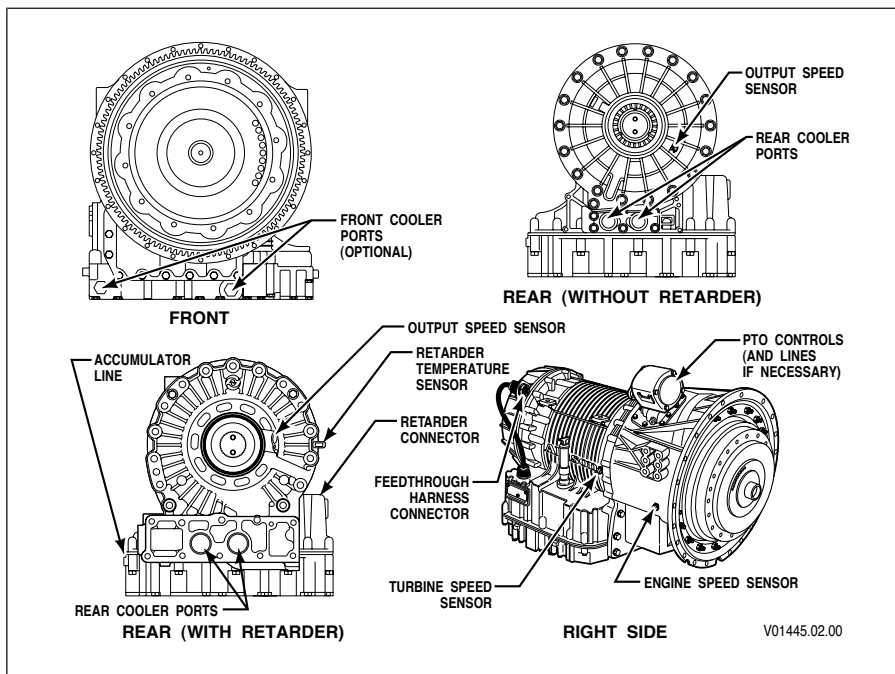

Figure 3-1. HD/B 500 Disconnect Locations
- Disconnect the external wiring harness at the feedthrough harness connector. Refer to Figure 3-1 or Figure 3-2. Disconnect the external wiring harness at the transmission connect (Figure 3-3) on earlier models. Prevent dirt or moisture from entering a disconnected connector. Position the wiring harness so it does not interfere with transmission removal.
- For the HD/B 500, disconnect the engine, turbine, and output speed sensors (refer to Figure 3-1).
- For the HD/B 500, disconnect the retarder connector and the retarder temperature sensor connector (Figure 3-1).